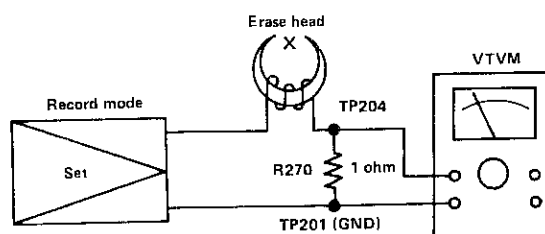

Figure 17-3
- Make connection of instruments as shown in Fig. 17-3, and check if the erase current is as shown in Table 17-2.